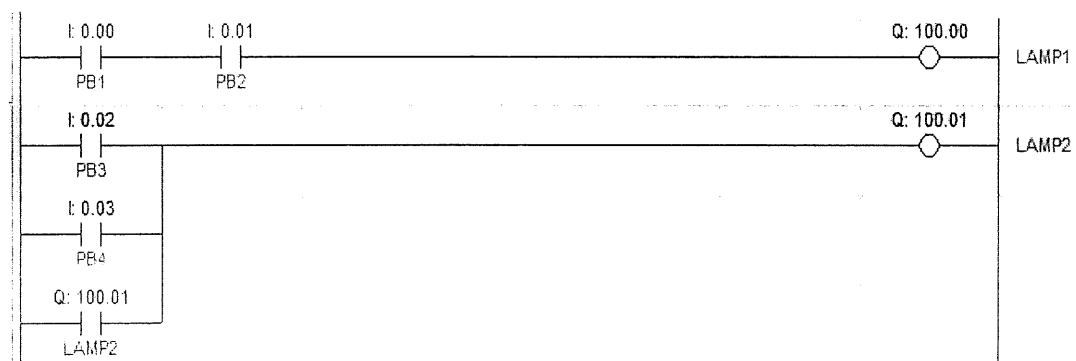

Figure 3
- c. Figure 3 shows a ladder diagram for a condition that should be working as below when: -